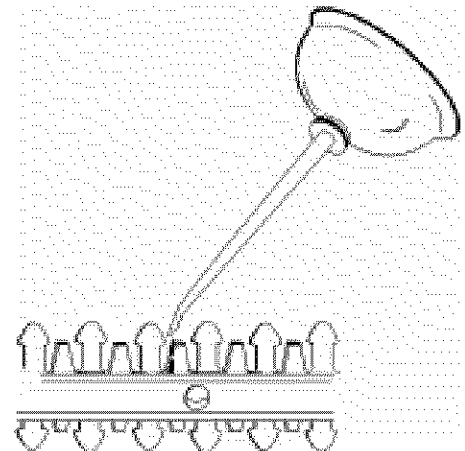

Fig. 15
- For easier operation and longer blade life, lubricate the hedge trimmer attachment blade before and after each use. Before lubricating, be sure the switch is in the OFF position on the powerhead. Apply light machine oil along the edge of the top strap (Fig. 15).